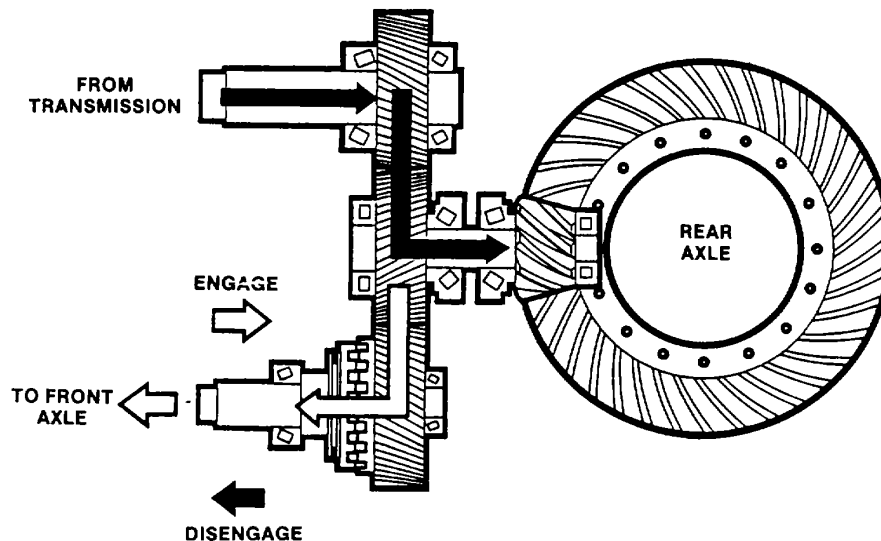

Figure 1-25. Power Divider Operation
(1) The 4-wheel drive transfer gearing and the power flow through the power divider is illustrated in figure 1-25. The transfer gearing includes a mechanical sliding clutch for engagement and disengagement of the drive line to the front wheels.
(2) In two-wheel operating mode, the sliding clutch is disengaged and power flow is direct to the rear axle. For four-wheel-drive operation, the sliding clutch is engaged and power is distributed through the helical gears to both the front and rear axles.